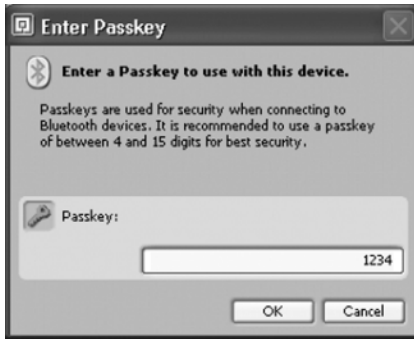

Figure 2-10. *Dialog asking for the passkey for the Bluetooth connection*
- Click the Connect button, and you're asked for a passkey in the Enter Passkey dialog (see Figure 2-10). Use the default number 1234 and click OK. The NXT makes a sound, asking for the passkey. Confirm the connection on the NXT brick, using the same passkey as before.